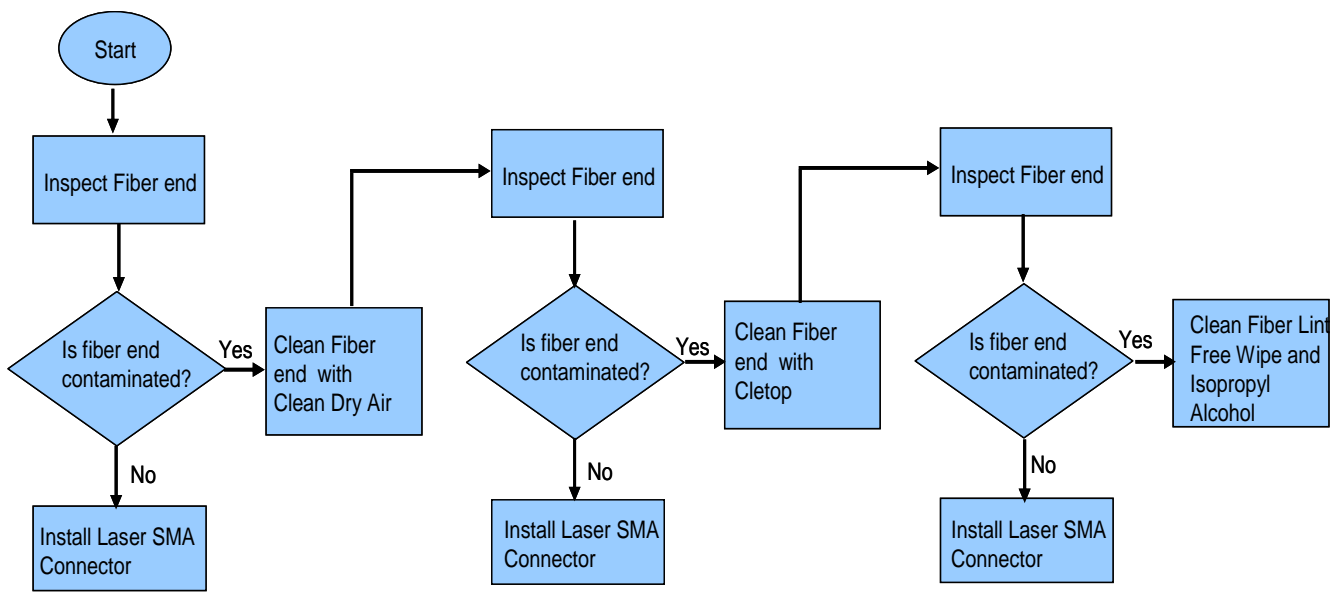

Figure 8: Fiber Cleaning Process Flowchart
- Follow the fiber inspection and cleaning process (Figure 8) before making a laser fiber SMA connection.